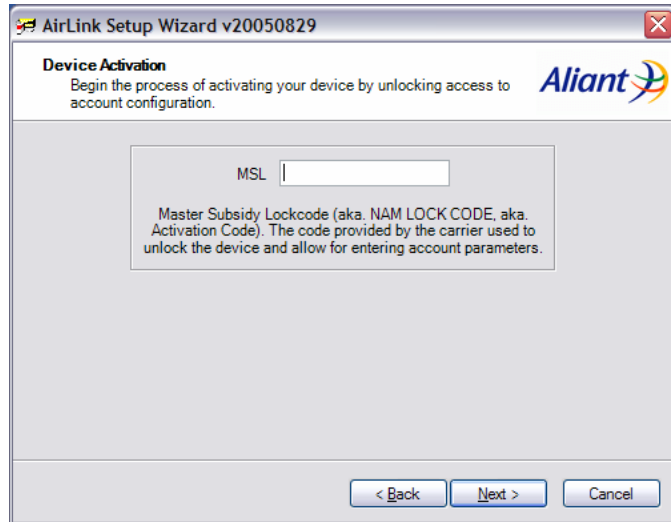

Figure 7 – Device Activation
5. A 6-digit Program Lock Code is written on the box the Raven CDMA modem was shipped in. Enter this code in the MSL area, as shown in Figure 7 – Device Activation, and click next to continue.